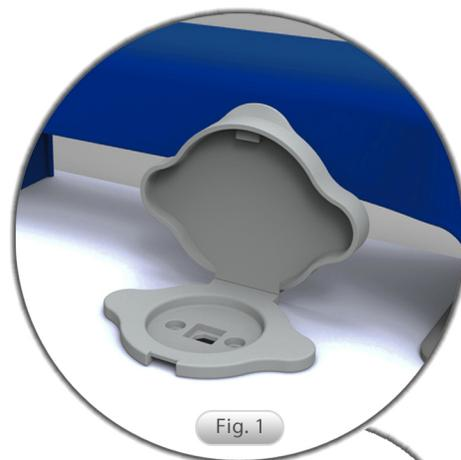

Fig. 1
**To UNLOCK rear door** – push down the latch located on the inside panel on the side of the door. (See Fig. 1)
Connect your host computer to the Boost+ via the top panel connection port shown in (Fig 1) using a USB A plug to B plug. Ensure the TabCabby is turned on at the mains, connect the Boost+ to a host computer via the USB 'B' connection port shown in (Fig 4). You will need a USB 'A' plug to 'B' plug cable to make connection (Fig 5). When connected, the Boost+ will switch all 16 USB ports from charging to syncing. Devices connected to the Boost+ via the USB port will be visible through the appropriate software to the host computer and the sync process can be performed. When syncing has been completed disconnect the Boost+ from the host computer, the device will switch from syncing back to charging function. The sync function can be performed at any time as long as a host computer with the correct software is connected to the Boost+ via the USB 'A' to 'B' plug cable.